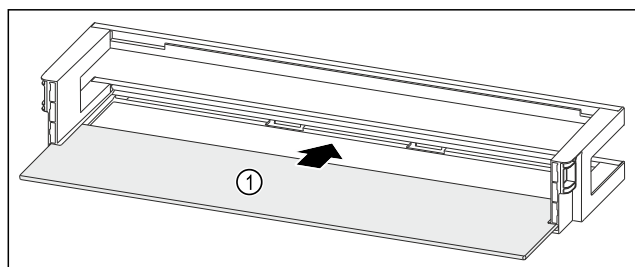

Fig. 230 Door rack with shelf
- ▶ Push the shelf Fig. 230 (1) into the side recesses.